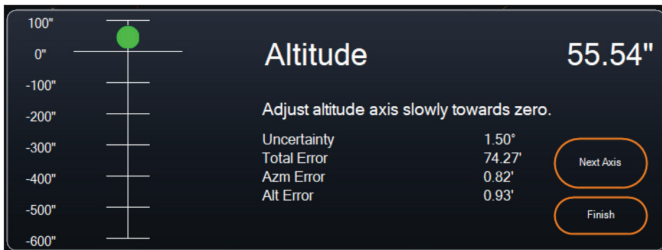

Fig. 19: Altitude Axis Adjustment window during polar alignment in CPWI.
5. Click “Next Axis” when you are done making adjustments to the azimuth. The Altitude axis adjustment window will appear (Fig. 19).